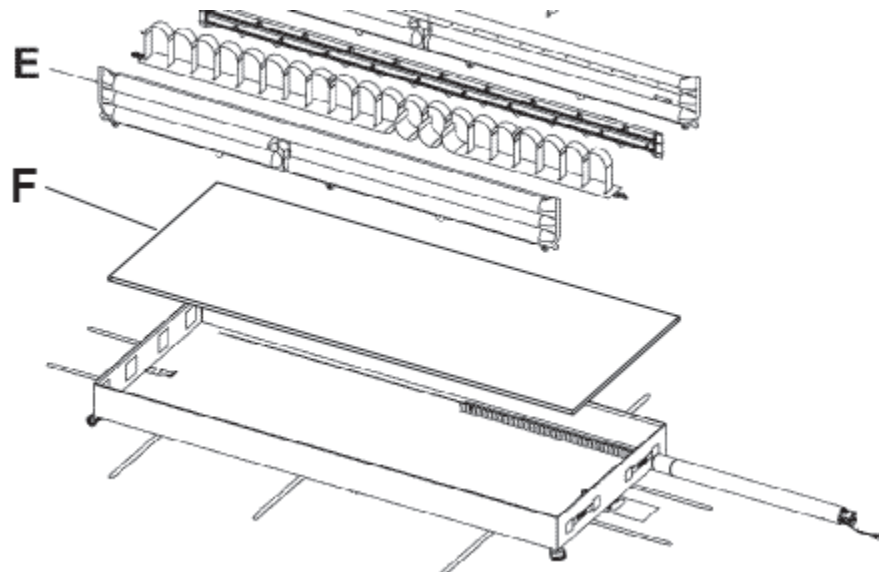

Figure 11 – Bolster
8. Unbutton the side bolster (E) from the bottom foam assembly (F) (Figure 11).